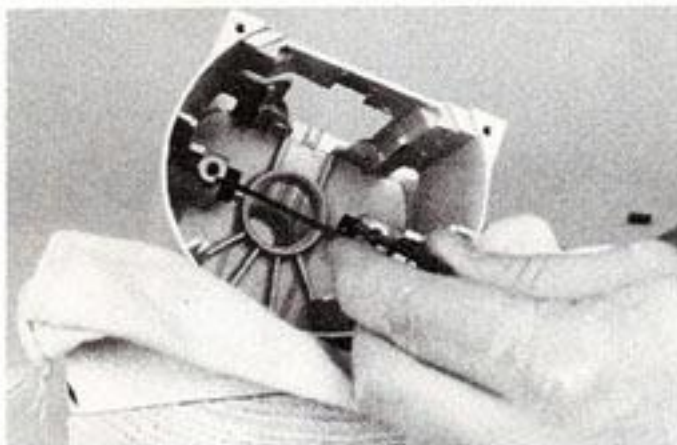

Fig. 34
- I. To remove the brush holder housings, it will be necessary to unscrew the other stator screw. Under the stator screws are #10-24 x 1/4" cup point setscrews. With a small flat screwdriver (Fig. 34), unscrew the setscrews a few turns and push the brush holders housings out by hand, inside the gear case and motor housing.